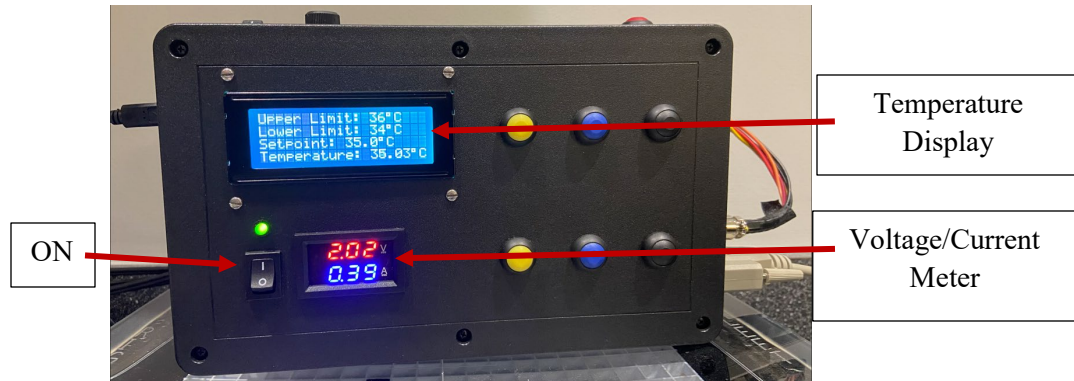

Figure 11
- Switch at the front (left of the Voltage/Current display), should be “ON” (Fig 11).